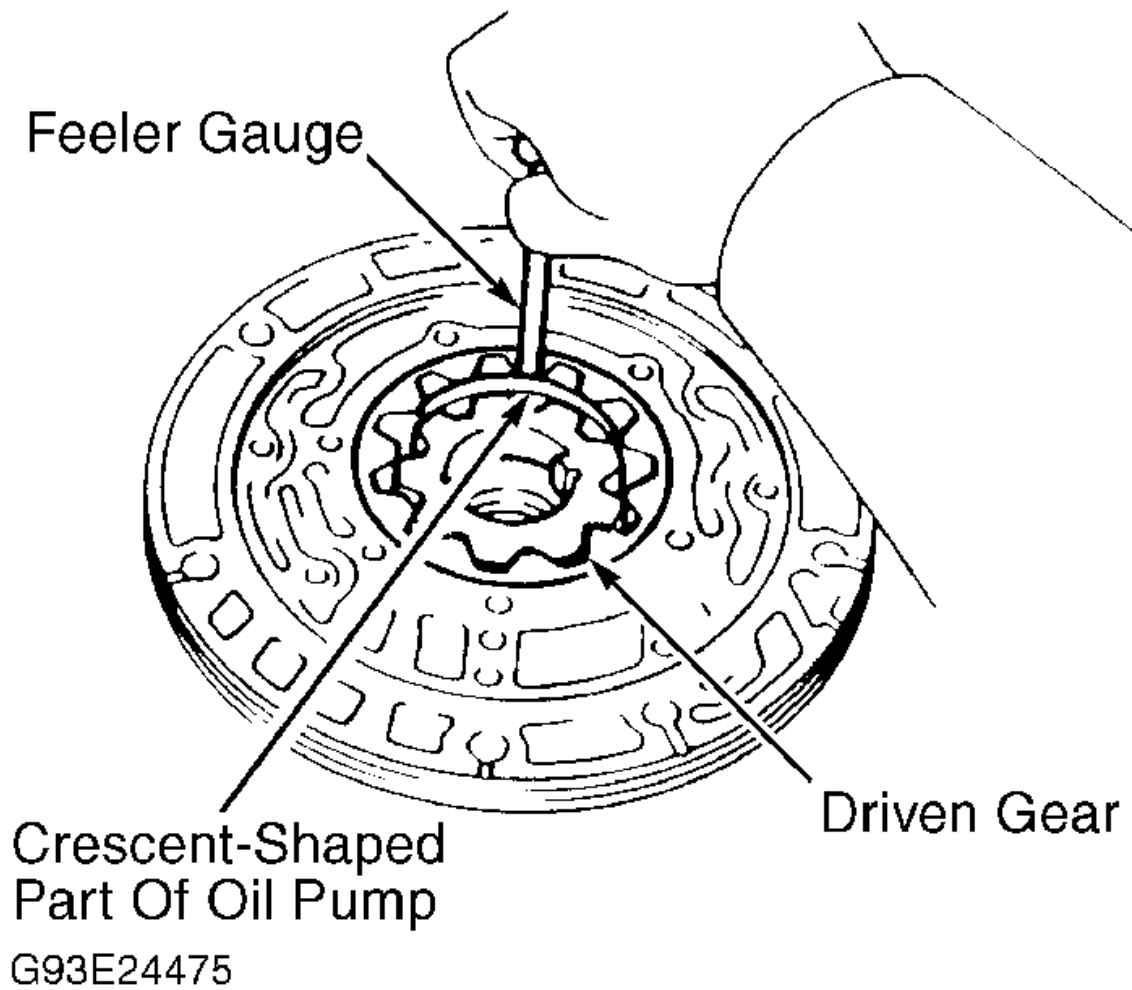

Fig. 32: Checking Oil Pump Gear Tip Clearance
2. Measure tip clearance between driven gear and crescent-shaped part of oil pump body. See Fig. 32. Replace oil pump body if clearance is not within specification. See OIL PUMP CLEARANCE SPECIFICATIONS.